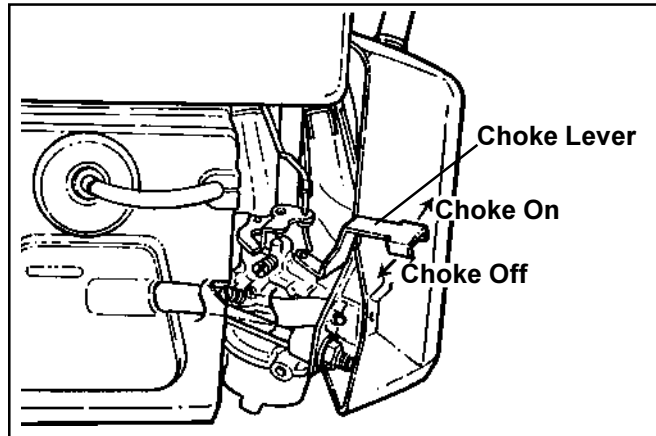

Figure 5. Location of Choke Lever.
2. **For a Cold/Warm Engine**-Place the choke control into the “on” position. See Figure 5.